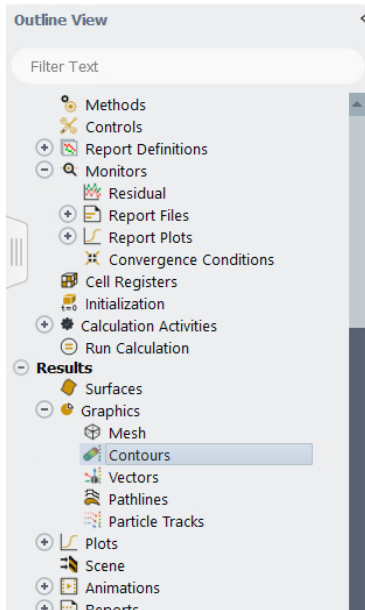

Figure 29. Selecting the “Contours” Graphic.
6.1.1. In the **Outline View** pane, expand the **Results** heading and expand the **Graphics** heading. Then, click on **Contours** as shown in Figure 29.